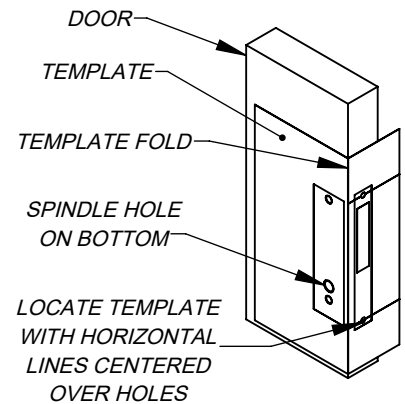

Figure 9
- 3) With the template folded at a 90-degree angle (Figure 9), locate the template by placing the horizontal lines of the template over the center of the holes on the side of the door. Mark the centers of the three holes on the template. **NOTE:** Ensure the spindle hole is placed at the bottom. This mounting is opposite compared to most Adams Rite configurations.